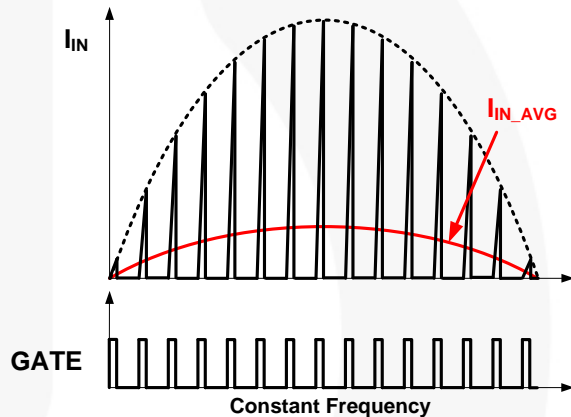

Figure 18. Input Current and Switching
In a conventional boost converter, Boundary Conduction Mode (BCM) is generally used to keep input current in phase with input voltage for power factor (PF) and Total Harmonic Distortion (THD). However, in flyback / buck boost topology, constant turn-on time and constant frequency in Discontinuous Conduction Mode (DCM) can implement high PF and low THD, as shown in Figure 18. Constant turn-on time is maintained by an internal error amplifier and a large external capacitor (typically $>1\mu\text{F}$) at the COMI pin. Constant frequency and DCM operation are managed by linear frequency control.